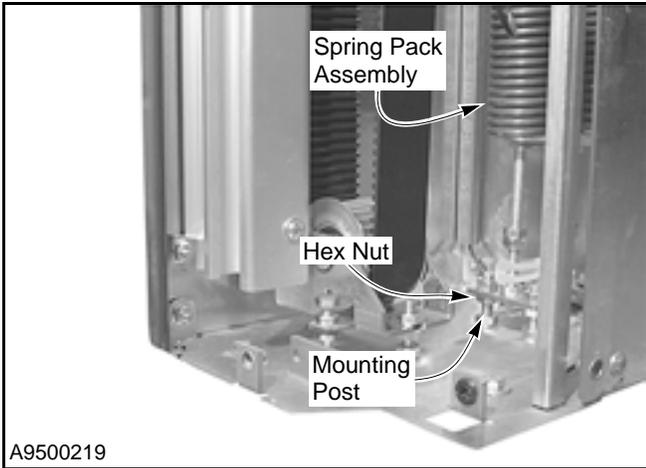

Figure 62
- Attach the spring pack to the mounting posts on the base plate. Tighten the *lower nuts* against the bottom of the mounting plate to retain the preload setting of the spring pack. (See Figure 62.)